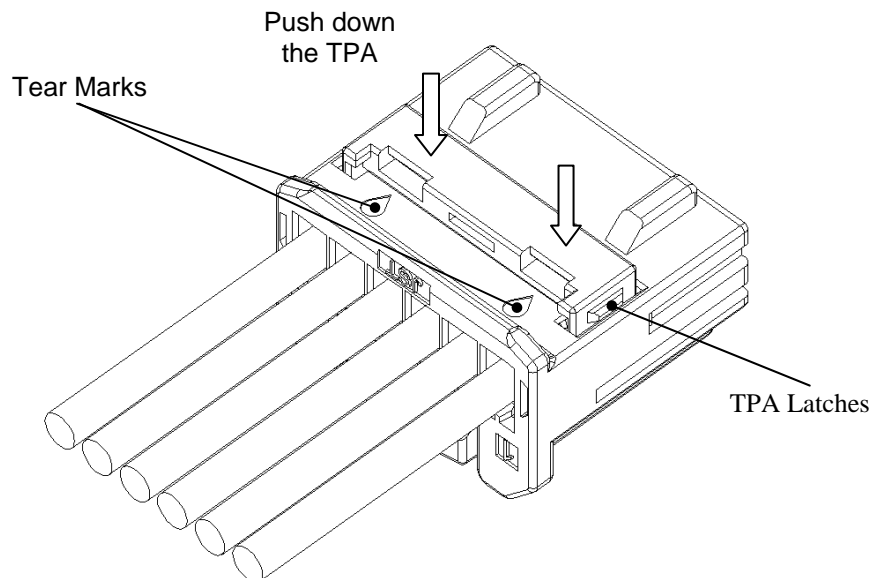

Figure 16. TPA Latches (e.g. 6 positions)
- a) To seat the TPA into its final position, apply pressure to the TPA. See Figure 16.